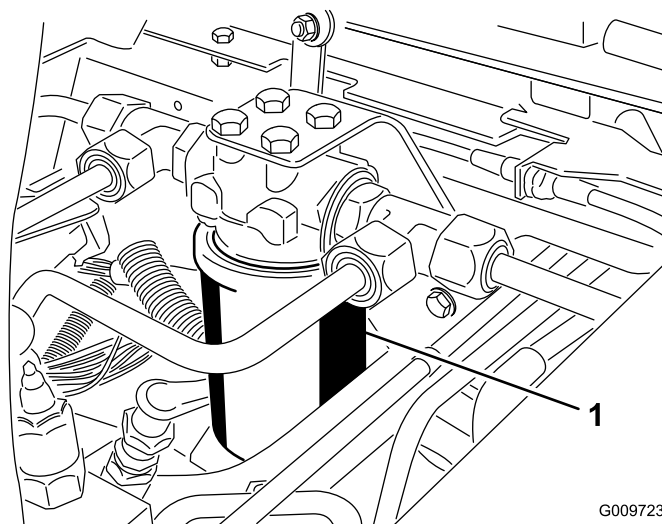
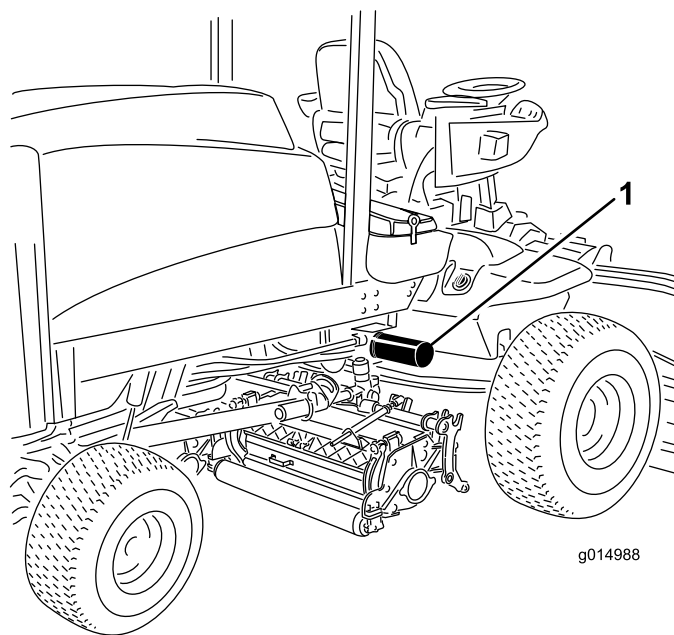

Figure 79
Figure 80
2. Clean the area around the filter mounting area. Place a drain pan under the filter and remove the filter (Figure 79 and Figure 80).